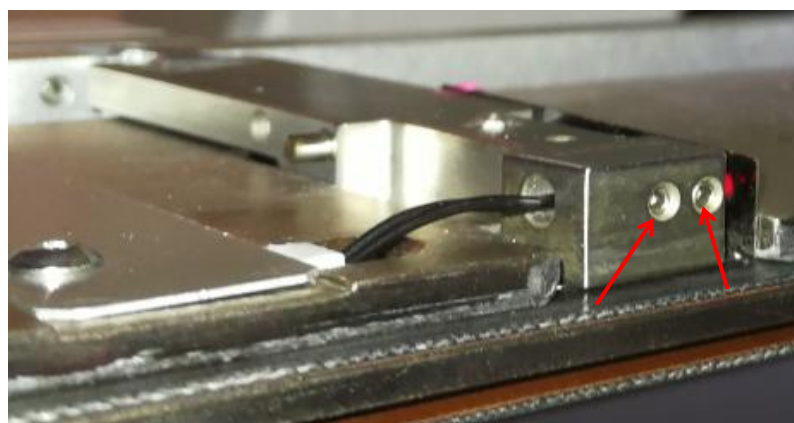

Figure 6 Set Screw Removal
7. Loosen 2 x Set screws as shown in Figure 6.